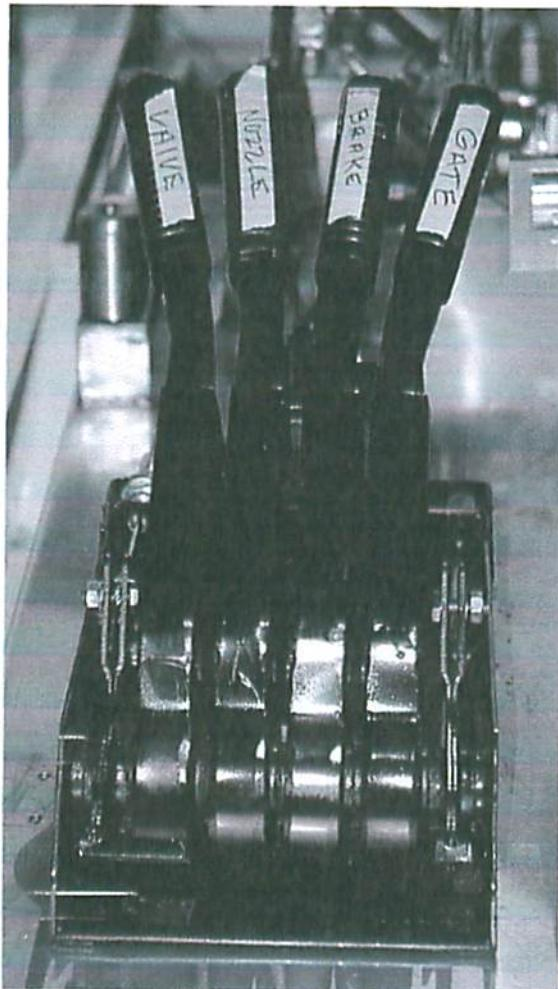

FIGURE 6.1
20. Close the 3" internal valve by pushing the Valve lever to the full forward position on the 4 way lever operator. **See Fig 6.1**